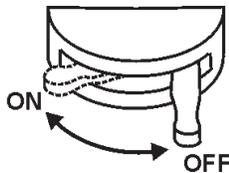

Figure 56. Battery ON/OFF Switch (OFF)
6. Place the battery ON/OFF switch (Figure 56) in the **OFF** position.